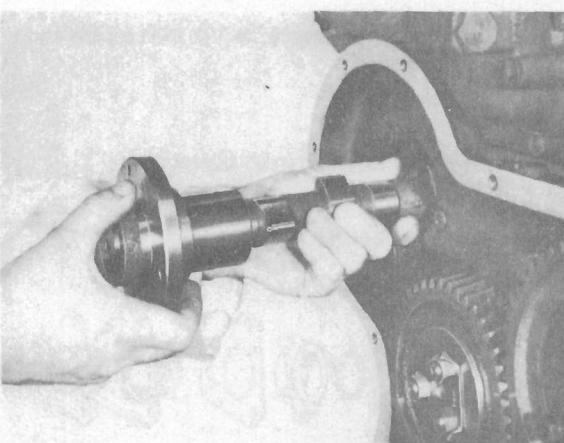

Fig. J.8.
5. Lift the tappets and remove the camshaft from its location in the cylinder block, taking care not to damage the journals, cams, or the tappets. See Fig. J.8.
7. Lift the tappets and withdraw the camshaft, (See Fig. J.8).